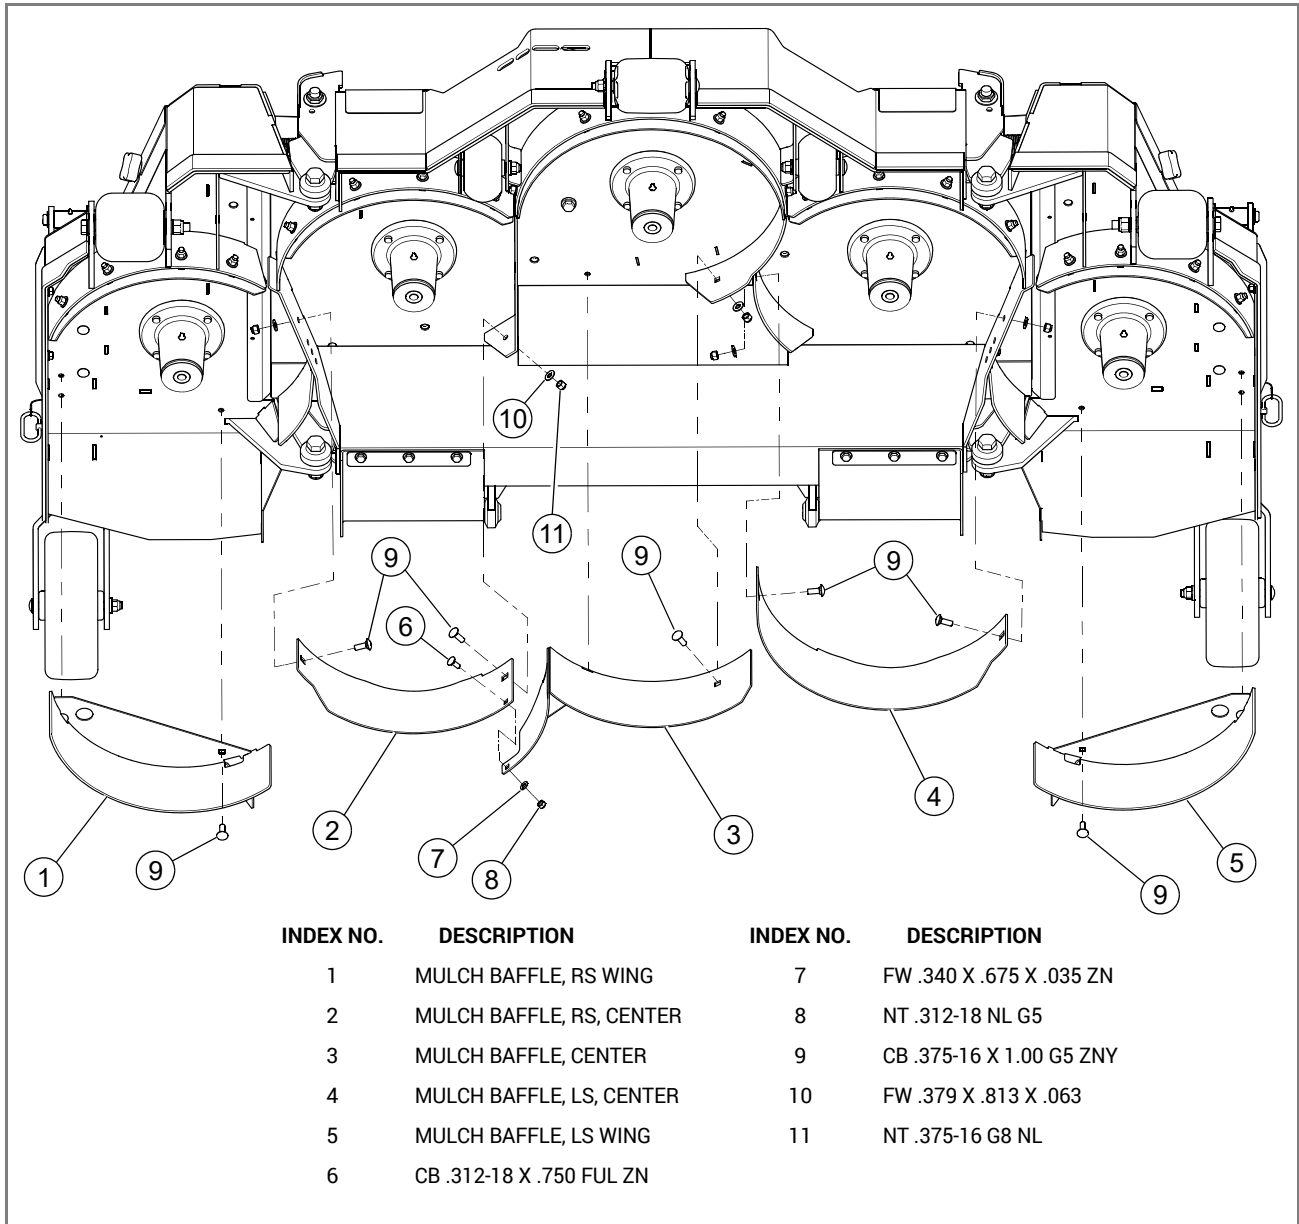
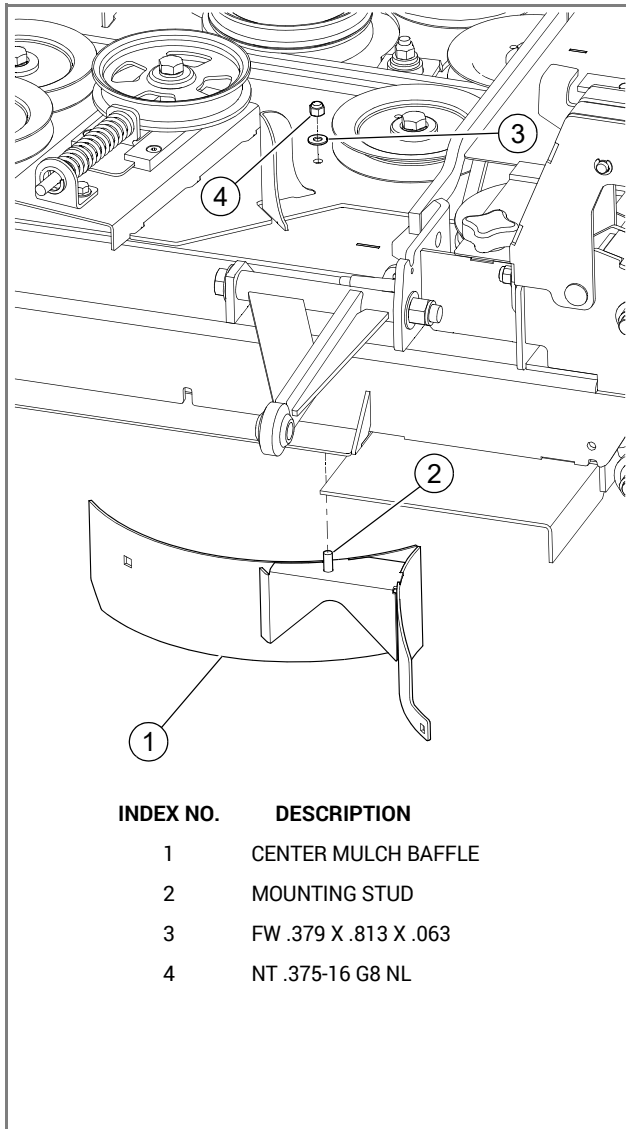
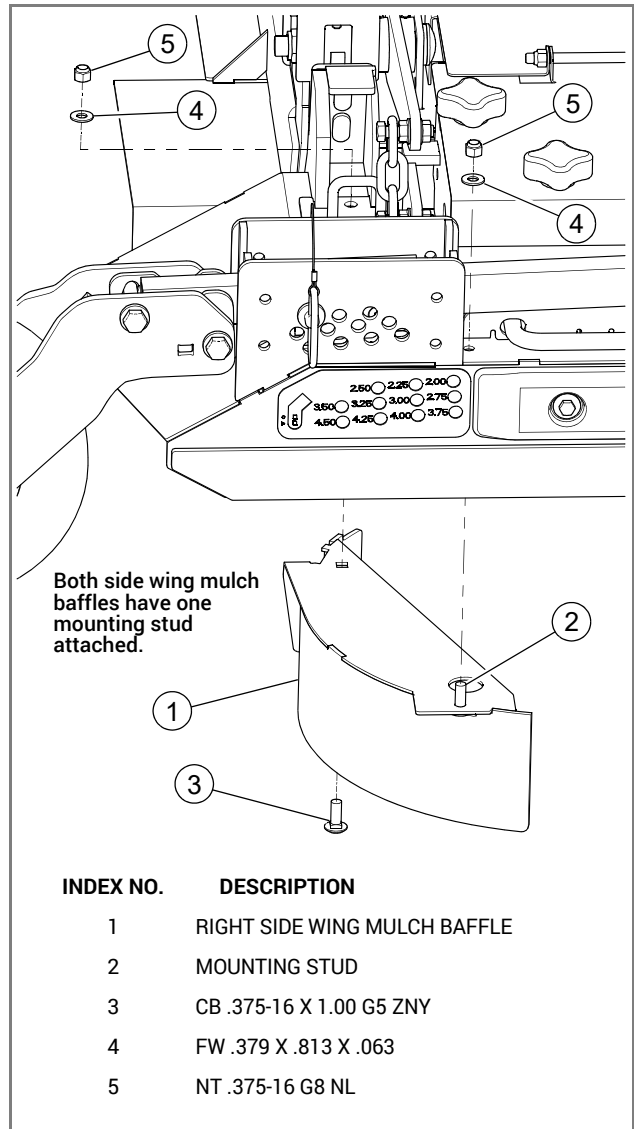

FIG. 3
FIG. 4
FIG. 5
9. Install the mulch baffles with the provided hardware as shown. FIG. 3, FIG. 4, & FIG. 5